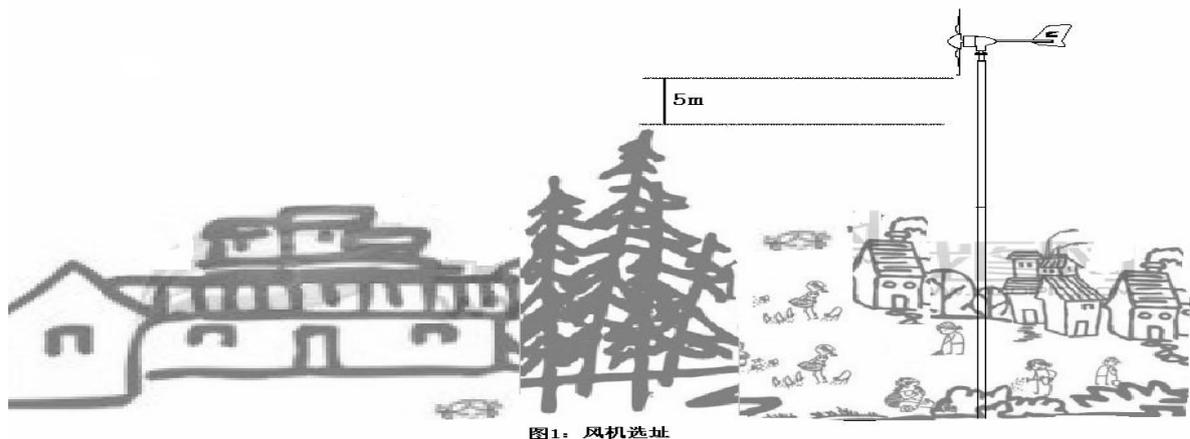

Fig.1
2.1 The minimum recommended tower height is 8m on open ground or 5m above nearby obstructions (Fig. 1), there are no obstacles within 100 meters as far as possible;